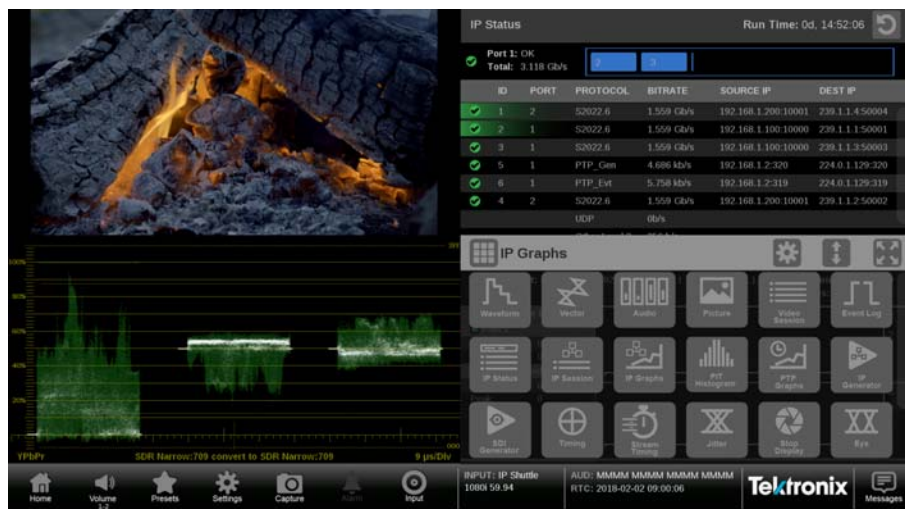

Figure 12: PRISM display in four-tile mode
The PRISM display in four-tile mode figure shows the instrument display with the application selection menu open in tile four. (See Figure 12.)
2. If necessary, touch the  icon to open the list of available applications. (See Figure 12 on page 25.)